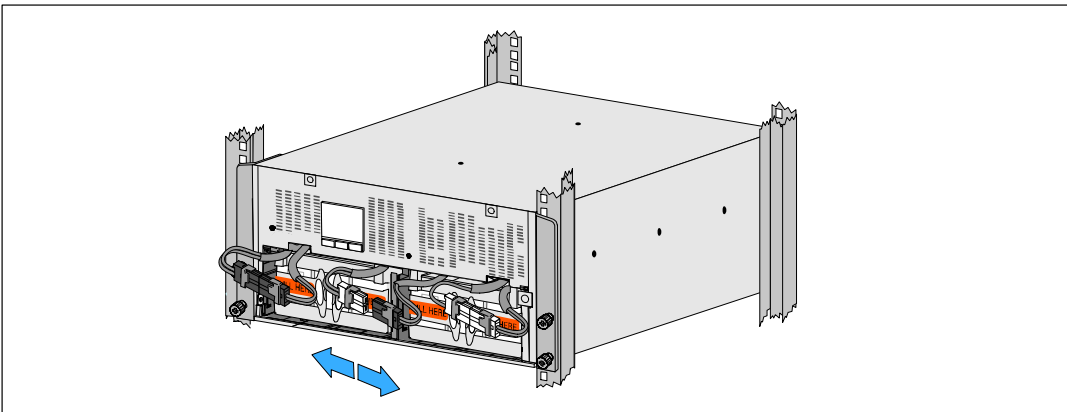

Figure 40. Disconnecting the Battery Connectors
- 3 Disconnect the battery connectors (see Figure 40):